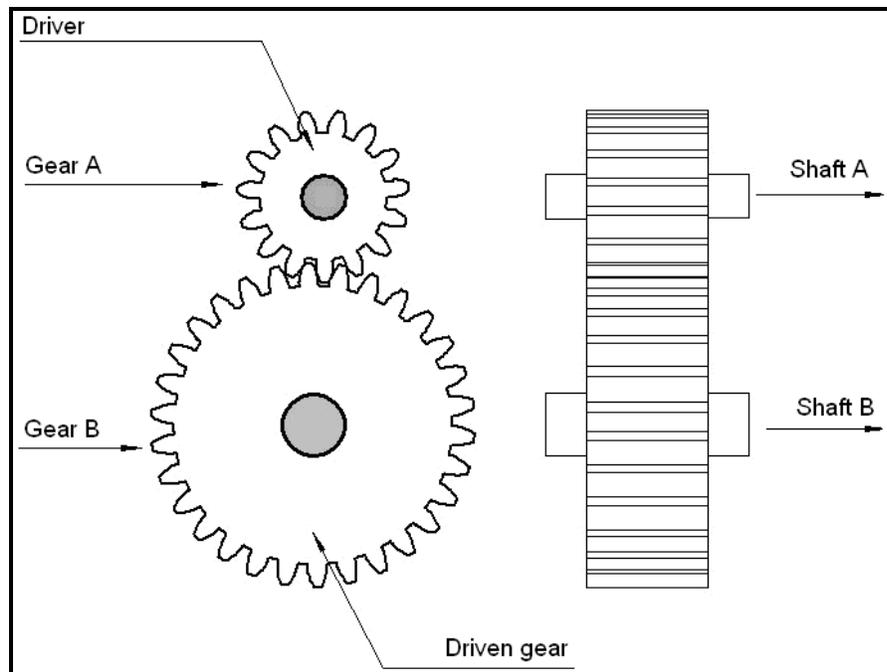

FIGURE 1.8
1.18 A simple gear train is shown in FIGURE 1.8. Driver gear A has 20 teeth rotating in a clockwise direction. When gear A is rotated 10 times, gear B rotates 5 times. How many teeth does gear B have and in which direction does it rotate?